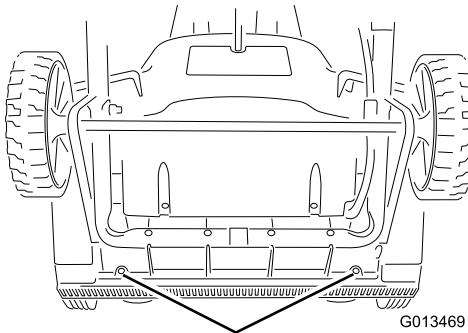

Figure 14
1. Remove the screw from each side plate that holds the scraper (Figure 13) and 2 screws from under the machine (Figure 14) that secure the scraper to the machine.